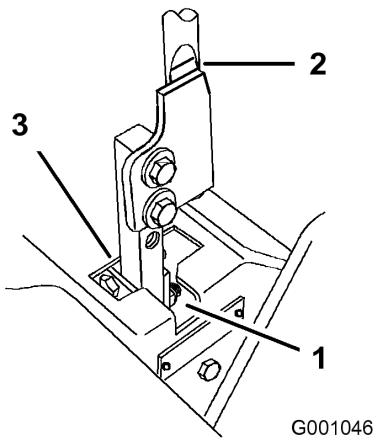

Figure 59
5. Move the lever to the neutral position but not locked (Figure 59).
6. Pull the lever back until the clevis pin (on arm below pivot shaft) contacts the end of the slot (just beginning to put pressure on the spring) (Figure 59).
7. Check where the control lever is relative to notch in console (Figure 59). It should be centered allowing lever to pivot outward to the neutral lock position.